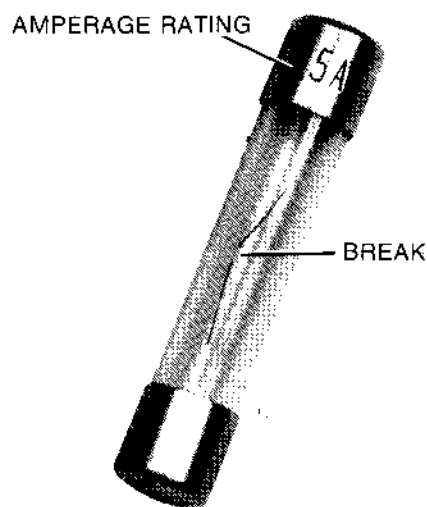

Figure 36
3. If the fuse is open (break in filament, see Figure 36), replace it with one of the same amperage rating. Using a fuse with a higher amperage rating may allow damage to the projector.